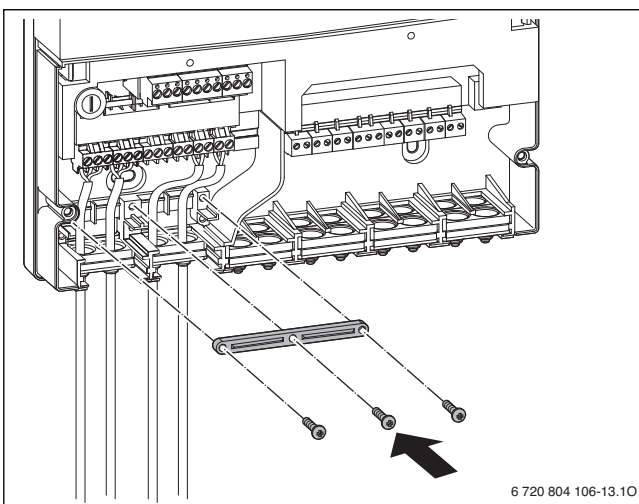

Fig. 15 Electrical connection - step 5
- ▶ Secure cables connected in steps 1 - 4 with the strain relief supplied as shown in fig. 15.